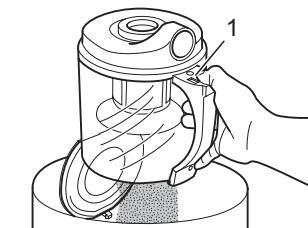

Fig. 17
- Push the release button (Fig. 17/1). The bottom opens and the dust falls into the dustbin.